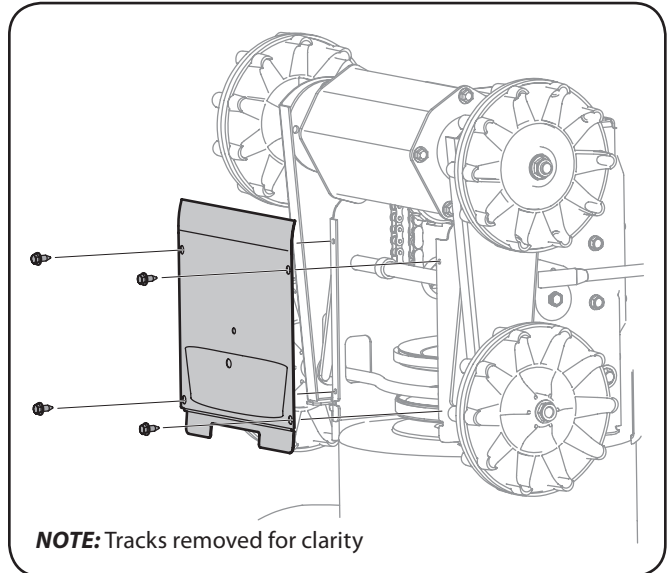

Figure 7-2
4. Remove the frame cover from the underside of the snow thrower by removing the self-tapping screws which secure it. See Figure 7-2.
- Remove the frame cover from the underside of the snow thrower by removing self-tapping screws which secure it. Refer to Figure 7-2.